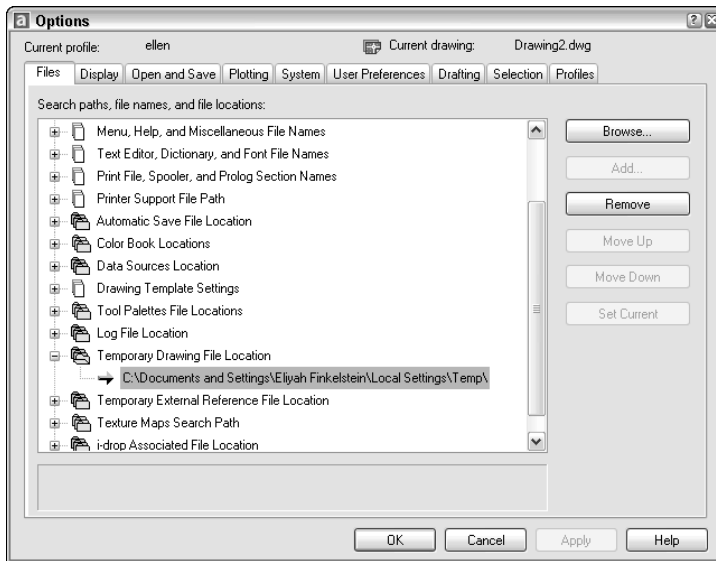

Figure 26-30: The Files tab of the Options dialog box
2. Click the plus sign next to Temporary Drawing File Location to open the current location, as shown in Figure 26-30.